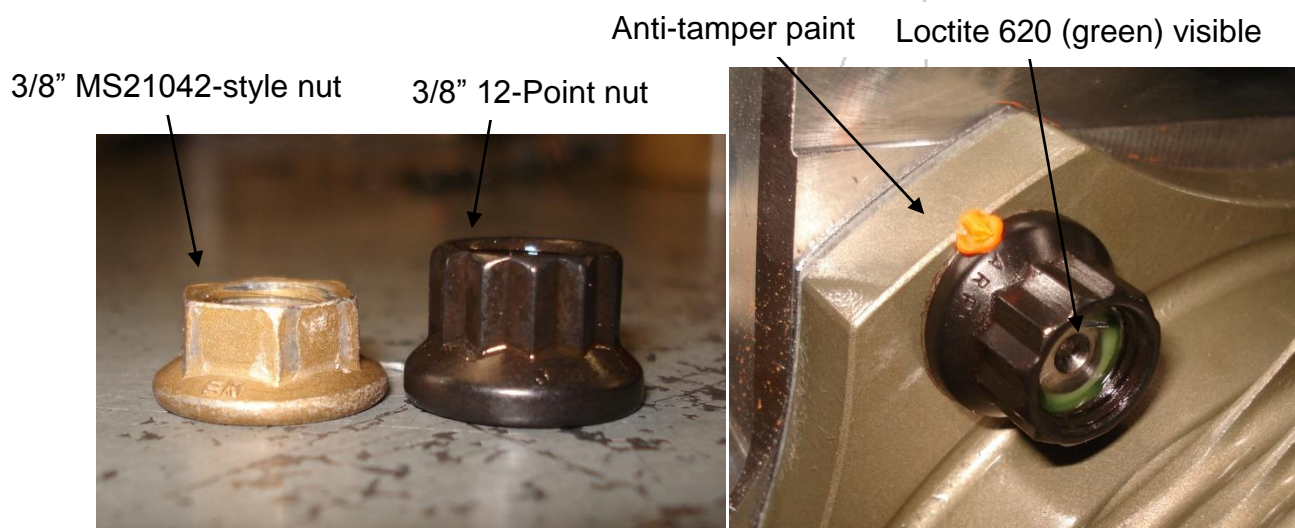
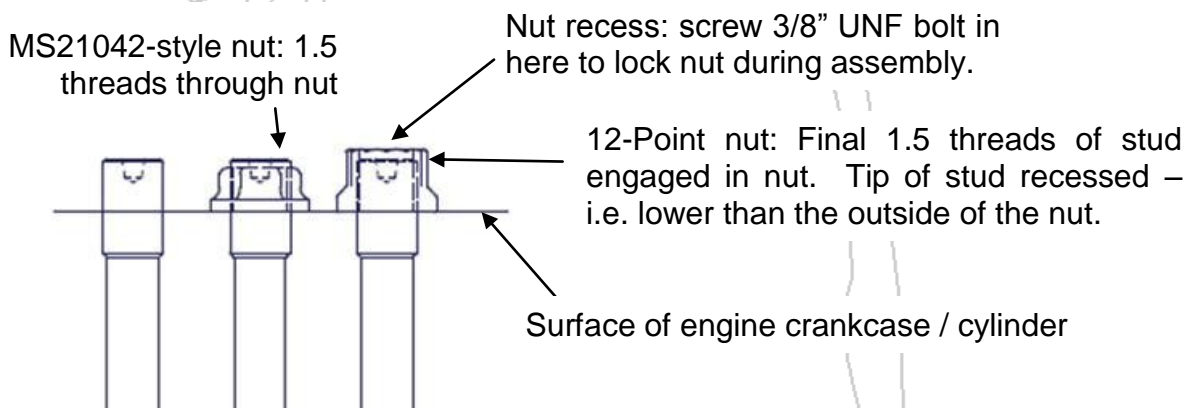

Figure 2 – 12-Point Nuts
Figure 3 – Through-Bolt Thread Illustration With Original Through-Bolts & Studs
- Testing has shown that 12-point nuts (Figure 2) can carry a slightly higher load than the original MS21042 type nuts. As they are longer they also spread the tension load over a higher number of threads on the bolt. This reduces the load concentrated on any given thread and improves the ultimate strength and fatigue life of the assembly.
- If the 12-point nuts are used on the original through-bolts then they will overhang the studs as shown in Figure 2 (right) due to their extra length. Normal aircraft practice is to ensure that a minimum of around 1.5 threads project through the nut, however in this case that is not necessary. Figure 3 shows an illustration of 3 through-bolts fitted to an engine. It can be seen that the thread projects the required amount from the old MS21042-style nut but is recessed inside the 12-point nut. However, due to its extra length the 12-point nut is actually engaging with at least 1.5 – 2 threads more and produces a stronger connection. Also, during assembly with “short” through-bolts it is necessary to put one nut in position and then lock it there by screwing a 3/8” UNF bolt into the recess so that the nut on the other end of the stud can be tightened (with the MS21042 style nuts the same thing was achieved by screwing a second nut onto the protruding thread as a lock nut).
- The base of the 12-point nuts must still be lightly chamfered when used on older cylinder barrels to clear the radius at the base of the cylinder. Newer cylinders, like that shown in Figure 2 (right) are a different design and may not need chamfered nuts – but overhaulers must confirm this before final assembly.
- c) Mark the completed nuts with anti-tamper paint as shown in Figure 2 (right).